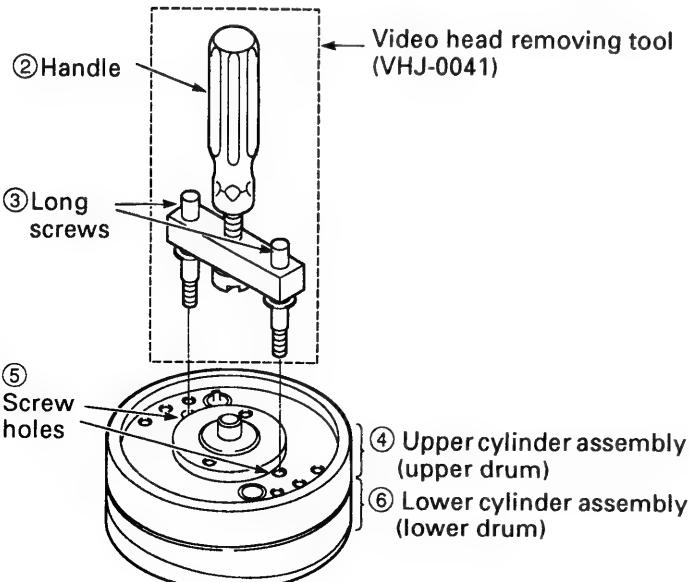

Fig. 3-5-2
- 2) First, tighten the handle ② of the video head removing tool (VHJ-0041), then screw the two long screws ③ evenly into the two screw holes ⑤ in the upper cylinder assembly (upper drum) ④ (See Fig. 3-5-2).
- 3) Hold the tool (VHJ-0041) so that the upper cylinder assembly (upper drum) ④ does not rotate, and at the same time, turn the handle ② clockwise, and remove the upper cylinder assembly (upper drum) ④.
- 4) Remove the tool (VHJ-0041) from the upper cylinder assembly ④.